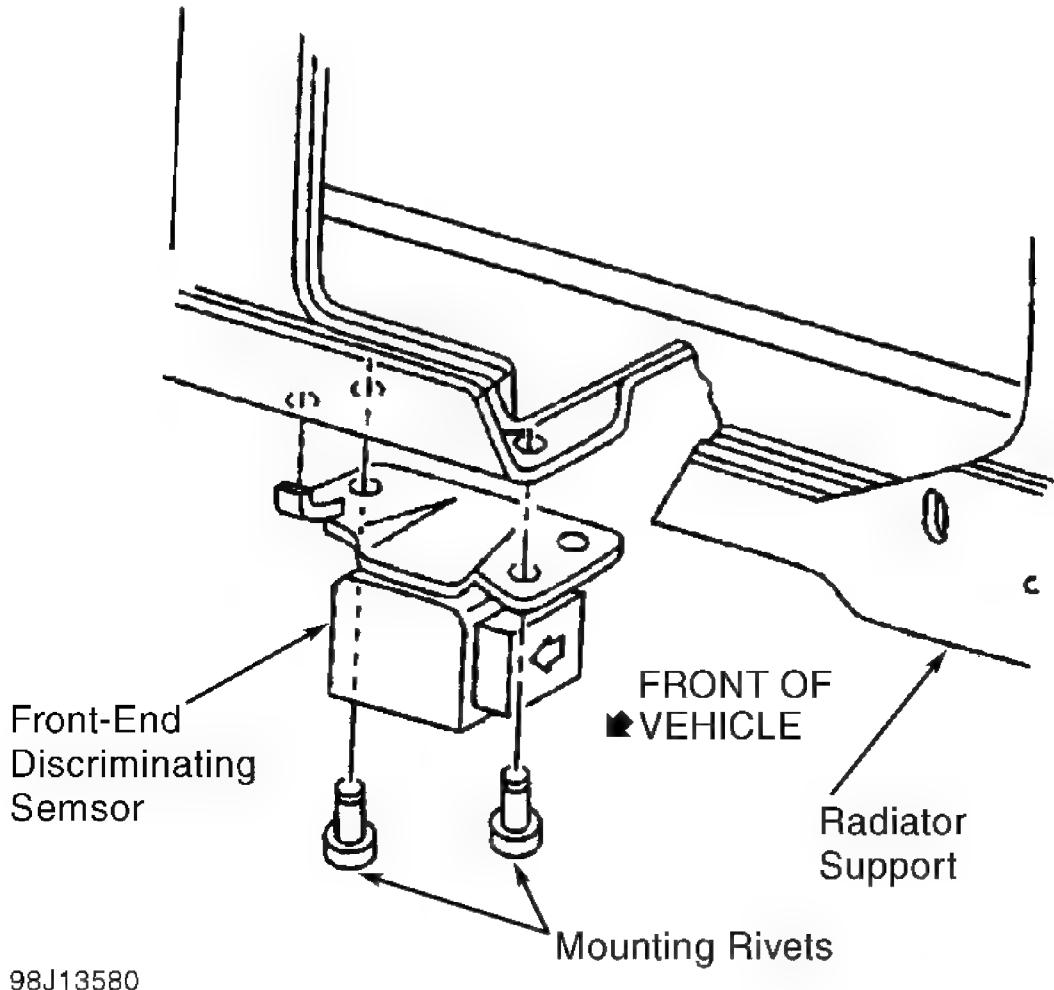

Fig. 7: Identifying Front End Discriminating Sensors
2. Remove off-road skid plate, if equipped. Remove CPA clip from connector and disconnect sensor harness connector. Drill out rivets. Remove front end discriminating sensor. See **Fig. 7**.